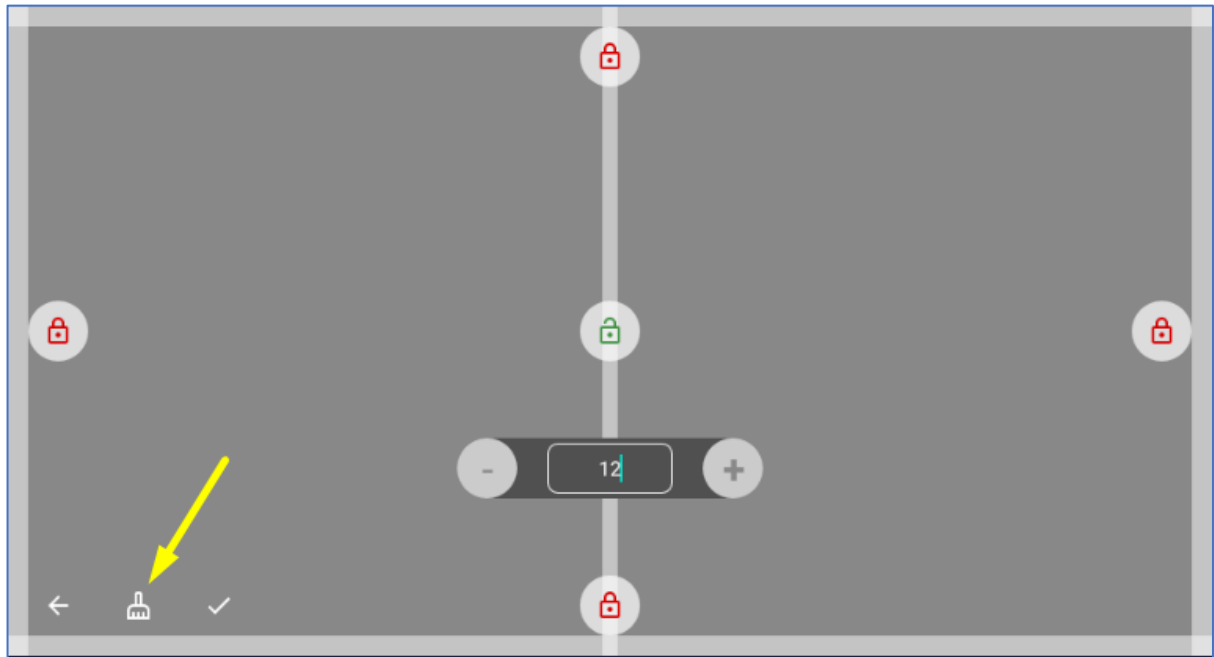

fig. 6.5. Changing the indents
- To reset all indents to standard sizes, use the button « (Clean)» (fig. 6.5).